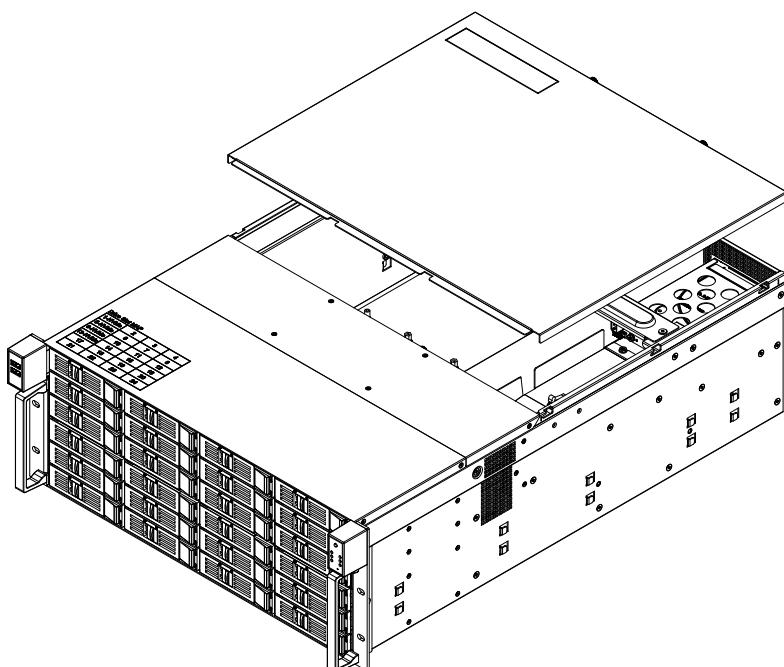

Figure 2.1 Removing the rear top cover/ 移除后顶盖 / 移除後上蓋
2. Slide the rear top cover backwards before lifting upwards to remove it (see Figure 2.1).
2. 将后顶盖向后拉出然后向上抬起。（如图 2.1 所示）